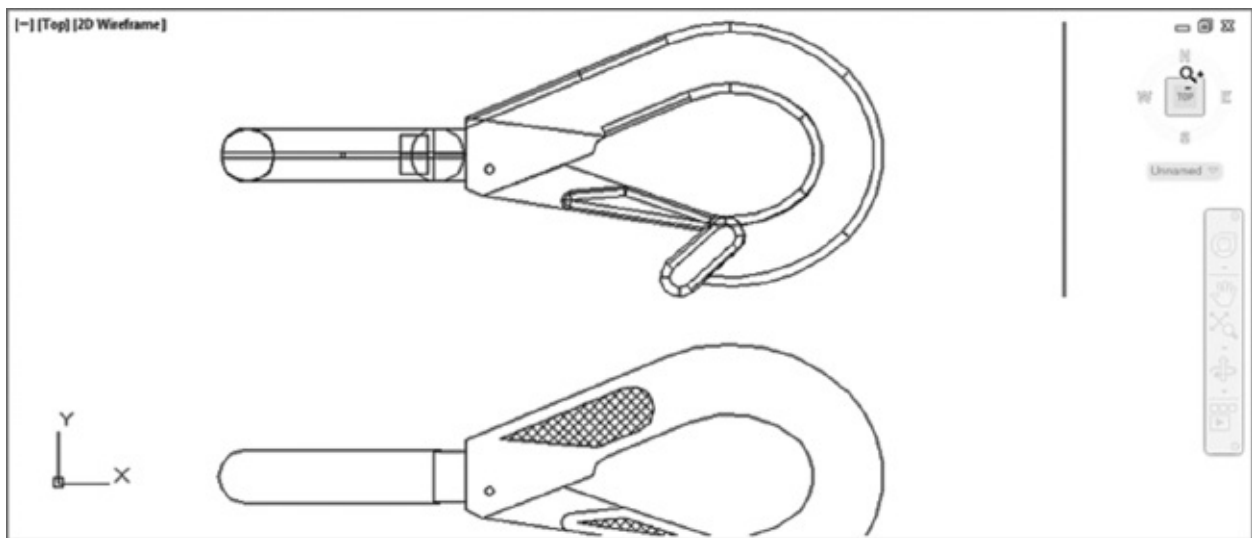

FIGURE 1.22 The final view you want to achieve in step 3 of the exercise
3. While still holding the left mouse button, move the cursor upward. Your view zooms in and enlarges. When you have a view similar to the one shown in Figure 1.22, release the mouse button. (Don't worry if you don't get *exactly* the same view as the figure. This is just for practice.)